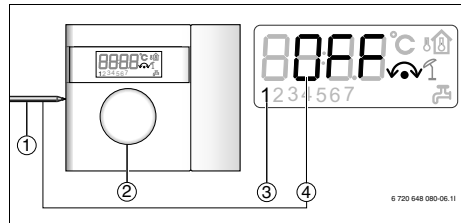

Fig. 19 Terminating CANbus LCD
**NOTICE:** The room temperature sensor is normally at the end of the CANbus and must therefore be terminated. Termination settings performed as shown in (Fig 19).